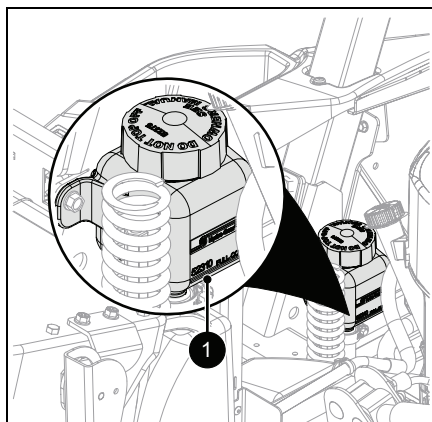

Figure 22
2. Check oil level in expansion tanks. Oil should reach the cold fill indicator mark. See Figure 22.
- b. Fill expansion tanks with 15W-50 synthetic motor oil until oil reaches the cold fill indicator mark. See Figure 22.